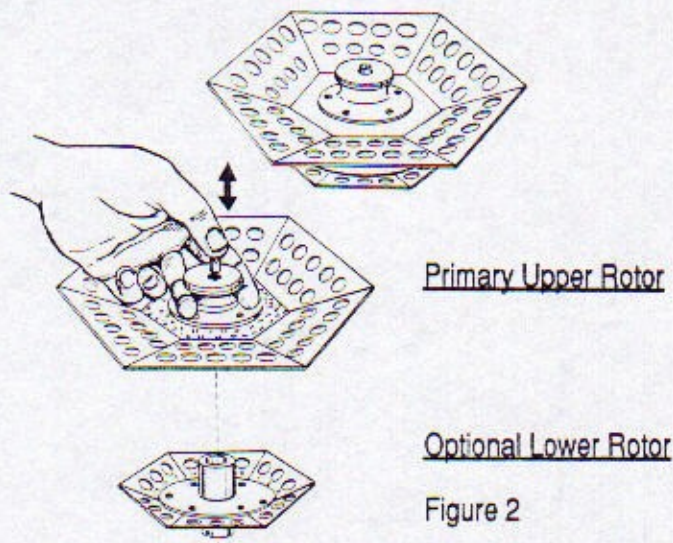

Figure 2
3. Place the top rotor over the shaft. Gently push down on the rotor button once to engage and hold the rotor (Figure 2).